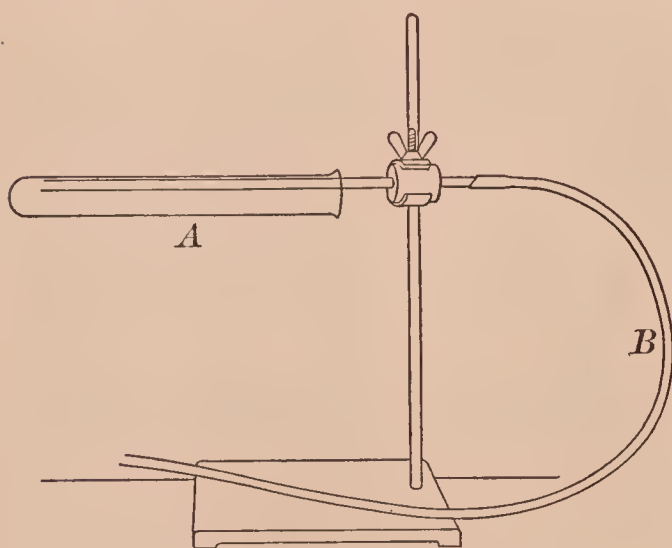

FIG. 21. — Apparatus for reducing copper oxide by illuminating gas
**APPARATUS.** — As in Fig. 21.
Arrange the apparatus as in Fig. 21. *A* is a large test tube. *B* is a piece of rubber (burner) tubing tightly connected with a piece of glass tubing which passes through a one-hole stopper. Clamp the stopper to the stand so that the